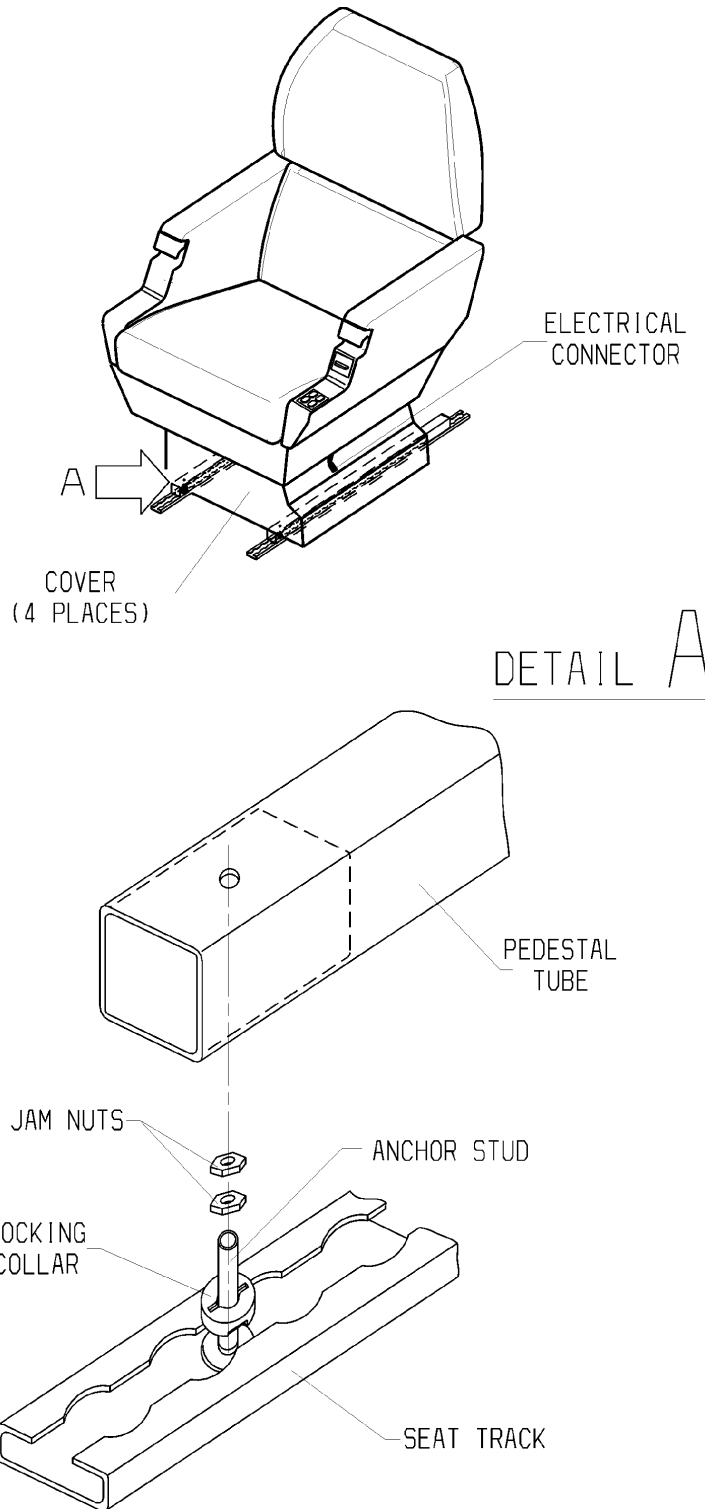
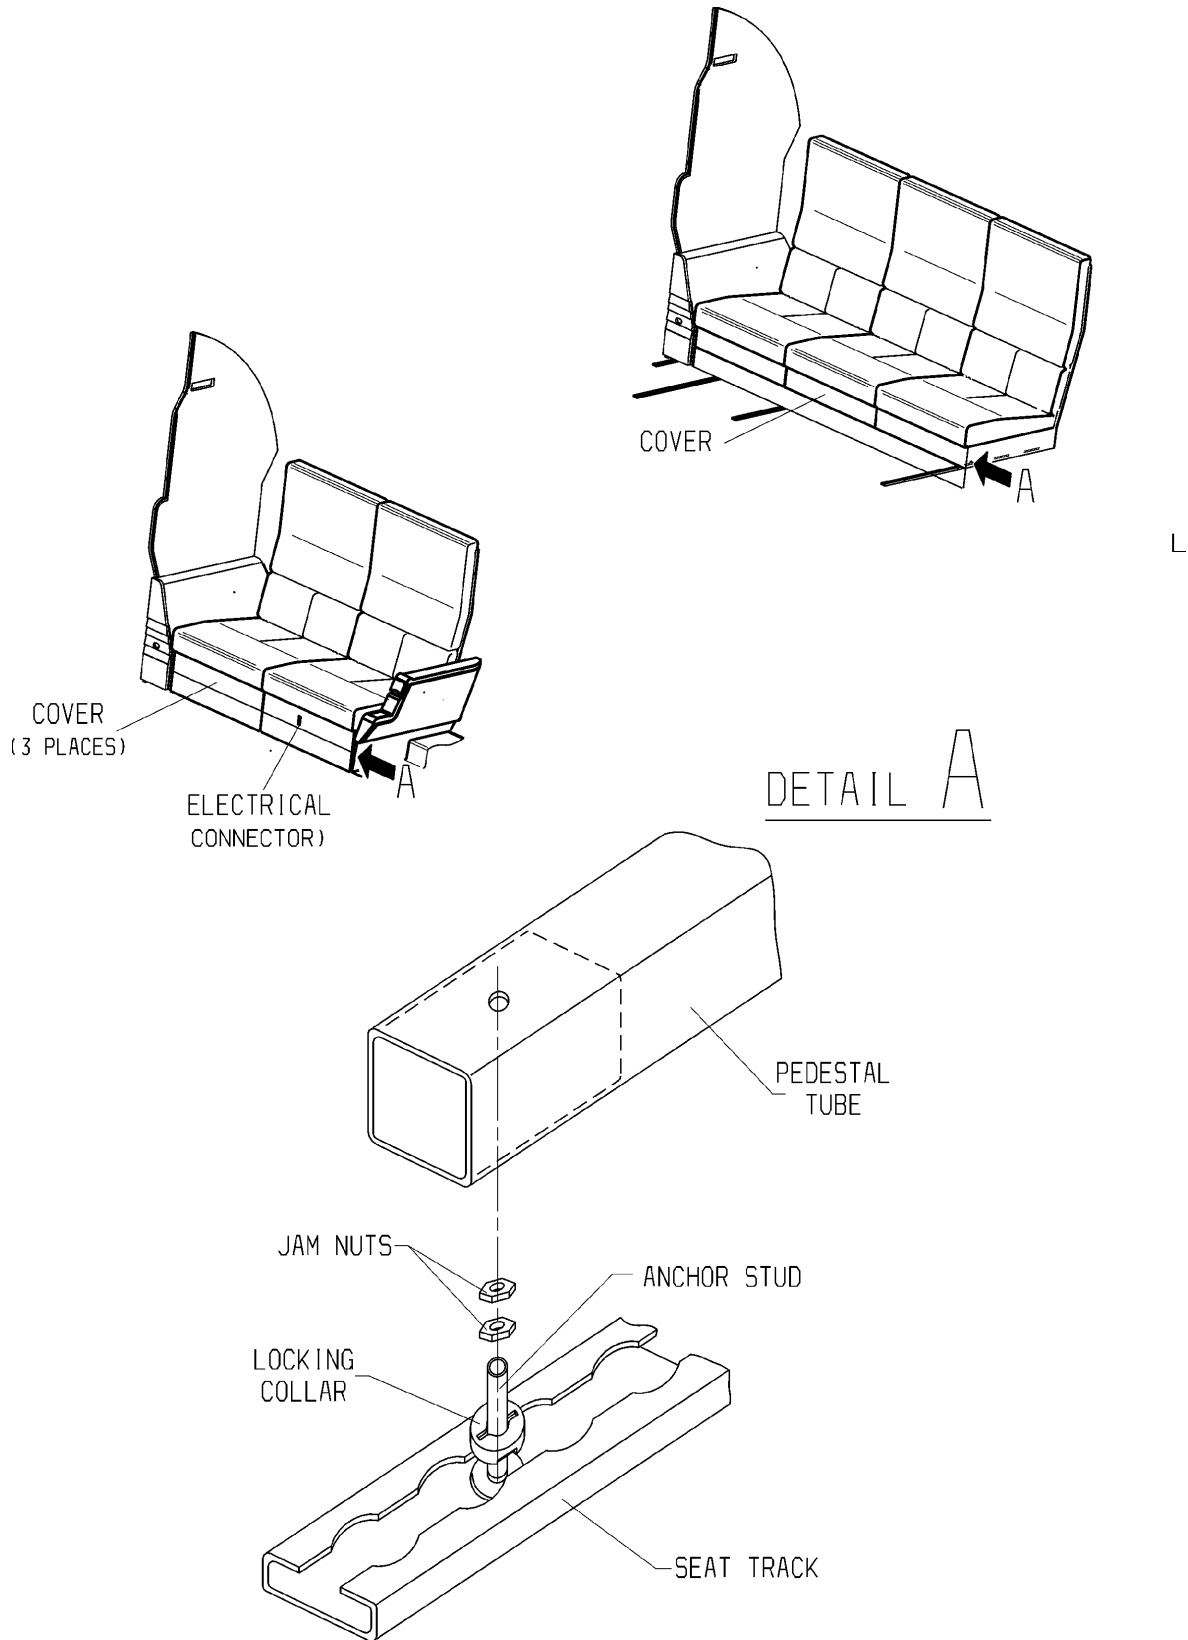

Fig. 202 - Forward and Aft Facing Seat - Removal/Installation
Fig. 203 - Two and Three Place Divan - Removal/Installation
4. Seats and Divan - Removal (Ref. to Fig.202 and Fig. 203)
5. Seats and Divan - Installation (Ref. to Fig. 202 and Fig. 203)